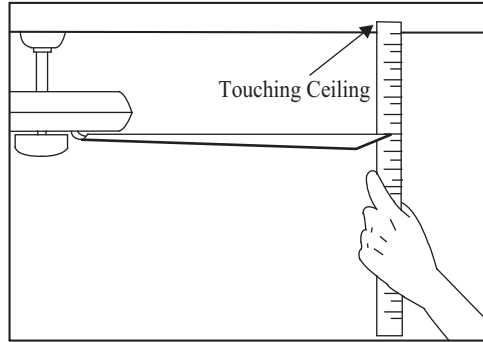

Figure 13
2. Most fan wobble problems are caused when blade levels are unequal. Check this level by selecting a point on the ceiling above the tip of one of the blades. Measure from a point on the center of each blade to the point on the ceiling. Measure this distance as shown in Figure 13. Rotate the fan until the next blade is positioned for measurement. Repeat for each blade. Measurements deviation should be within 1/8". Run the fan for 10 Minutes.